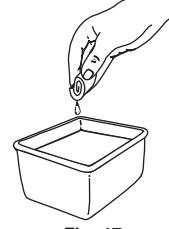

Fig. 17
3. Wash the filter in detergent and water (Fig. 17). Rinse the filter thoroughly and allow it to dry.